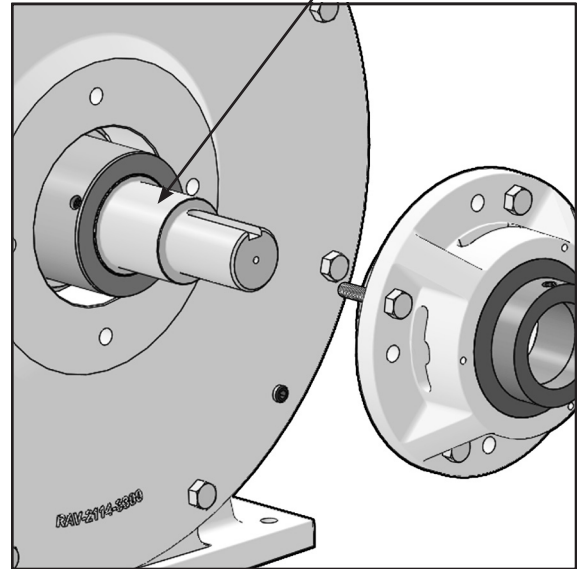

FIGURE 24
11. Remove any accumulated debris from rotor shaft using emery cloth (Figure 24).